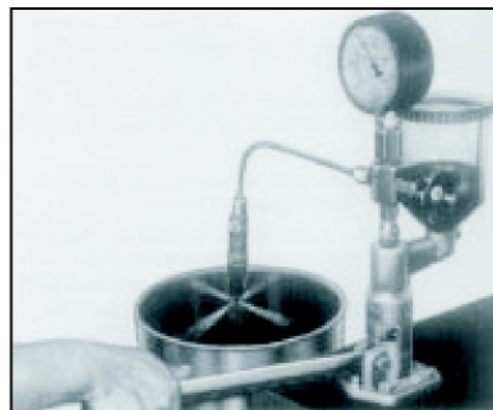

Fig. 21
7. Connect high pressure line to injectors and delivery valve holder ensuring the pipes are free from tension. If necessary align pipes free of tension with special tool, 312 580 0085. Tighten high pressure lines cap nuts to specified torque. Fig. 21.